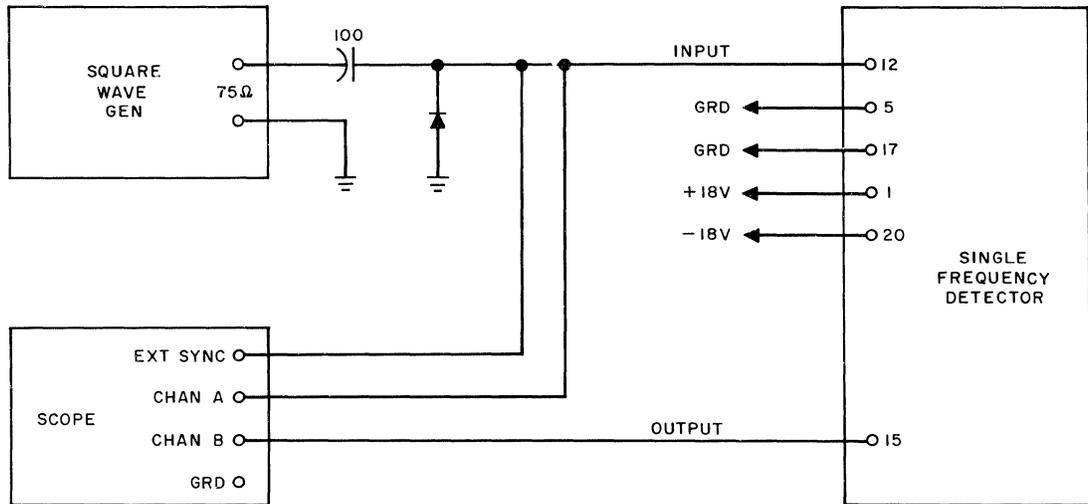
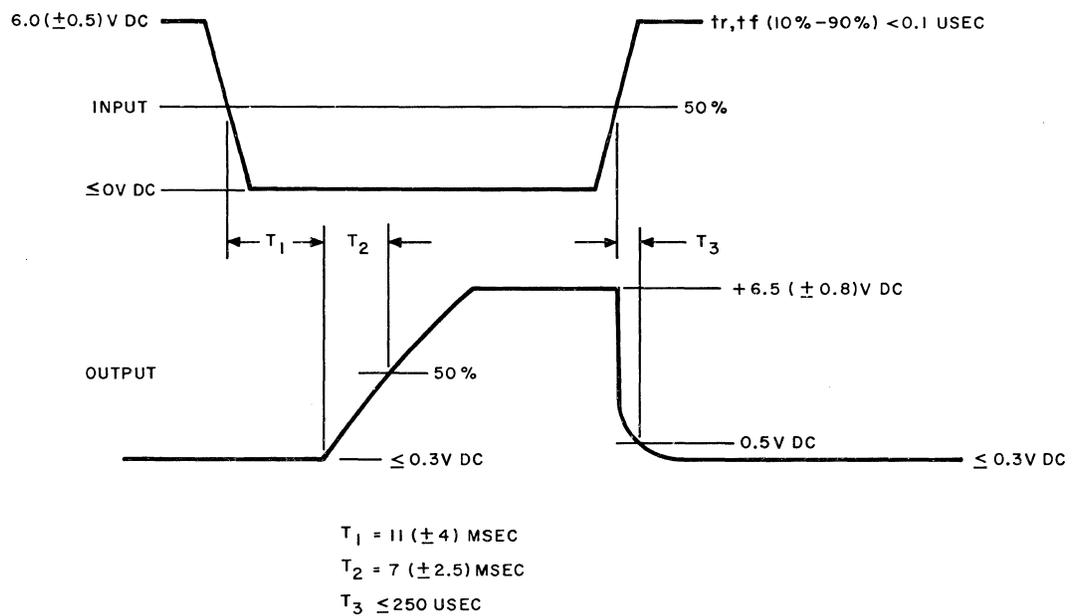

Fig. 15 — Single Frequency Detector Test
Fig. 16 — Single Frequency Detector Test
- (1) Connect the circuit as in the suggested test circuit shown in Fig. 15. Connect +18.0 ( $\pm 0.5$ ) volts dc to terminal 1, −18.0 ( $\pm 0.5$ ) volts dc to terminal 20, and ground to terminals 5 and 17.
- (2) Set the frequency of the square-wave generator to 5 ( $\pm 0.5$ ) cps.
- (3) The input waveform shall be as specified in Fig. 16.
- (4) Set the scope EXT SYNC TRIGGER to the (−) negative position. The output waveform shall be as specified in Fig. 16.
- (5) Set the scope EXT SYNC TRIGGER to the (+) positive position.  $T_3$  shall be as specified in Fig. 16.